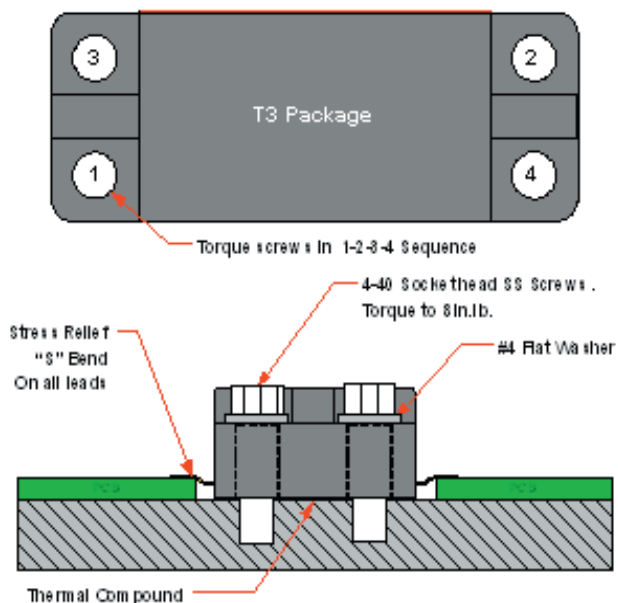

Figure 24, Top and Side View of a T3 device
1. The four screws (1-2-3-4), as shown in Figure 24, should be installed and seated, then torqued to one-half the specification, in the sequence shown. First screw 1 then screw 2, 3 and 4.